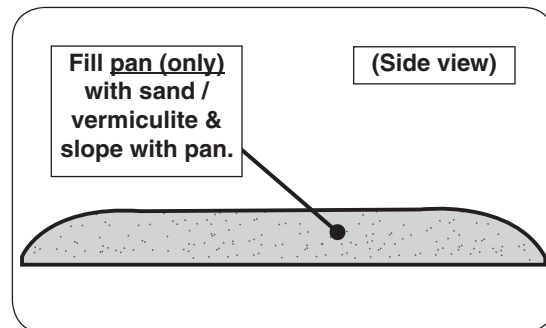

Fig. 21-2 Sand/vermiculite detail
2. **Slope the sand/vermiculite at the same angle as the burner pan.** This is important to ensure quiet lighting and even flame distribution. See Fig. 21-2.